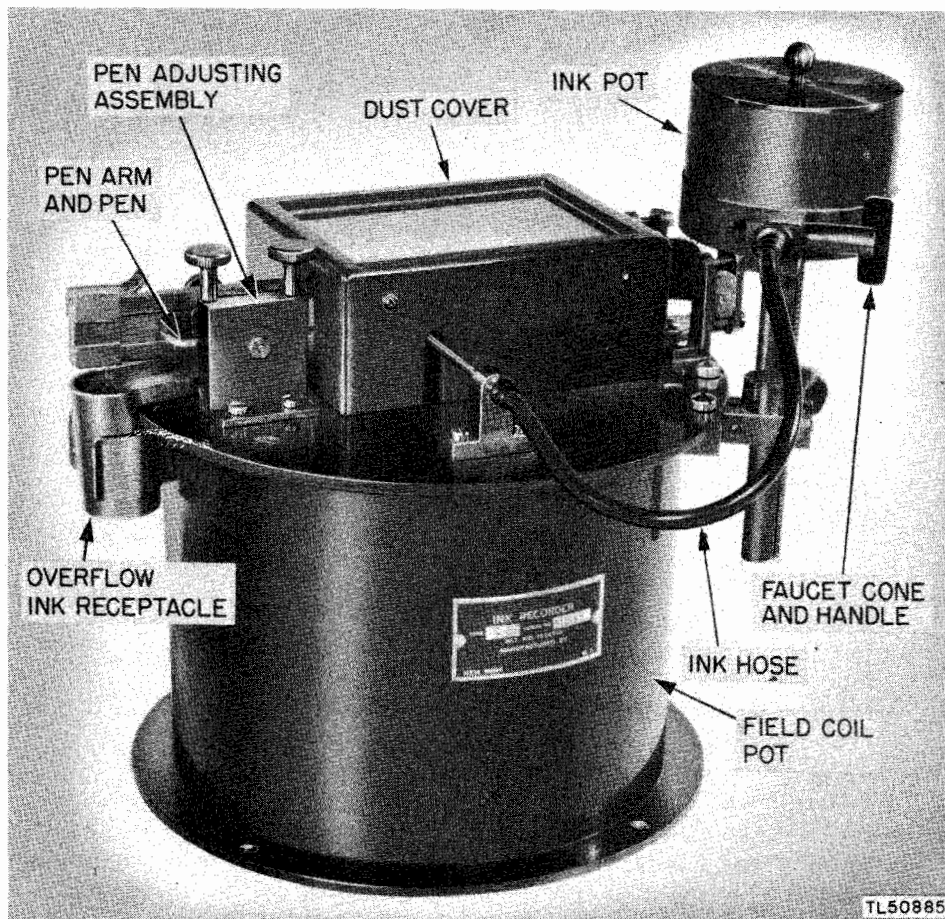

Figure 46. Ink recorder, type 4-G, front view.
The ink recorder, type 4-G (fig. 46), is designed for
**b.** Adjustable pen stops to control the relative position on the tape and the amplitude (distance between the upper and lower lines) of the recorded signals (figs. 46 and 51).
**d.** An ink pot which can be raised or lowered to vary the rate of ink flow through the ink hose to the pen (fig. 46).
**f.** A receptacle beneath the pen to catch any excessive flow of ink (fig. 46).
**h.** A hinged, glass-top cover inclosing the entire signal system to protect it from dust and paper lint (fig. 46).